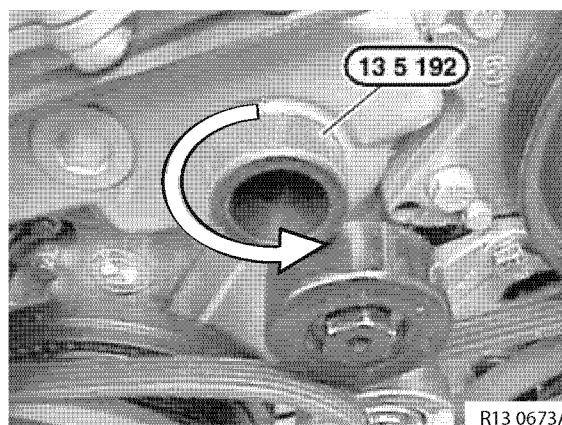

Figure 6-32
4. Remove special tool OEM No. 13 5 192 from timing case cover (**Figure 6-32**).